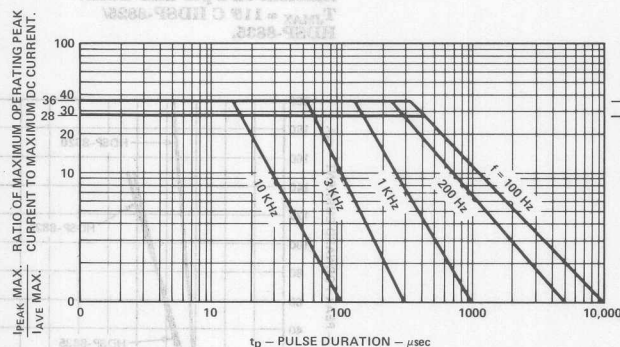

Figure 1. Maximum Tolerable Peak Current vs. Pulse Duration HDSP-8820.
- See Figures 1 and 2 to establish pulsed operating conditions.